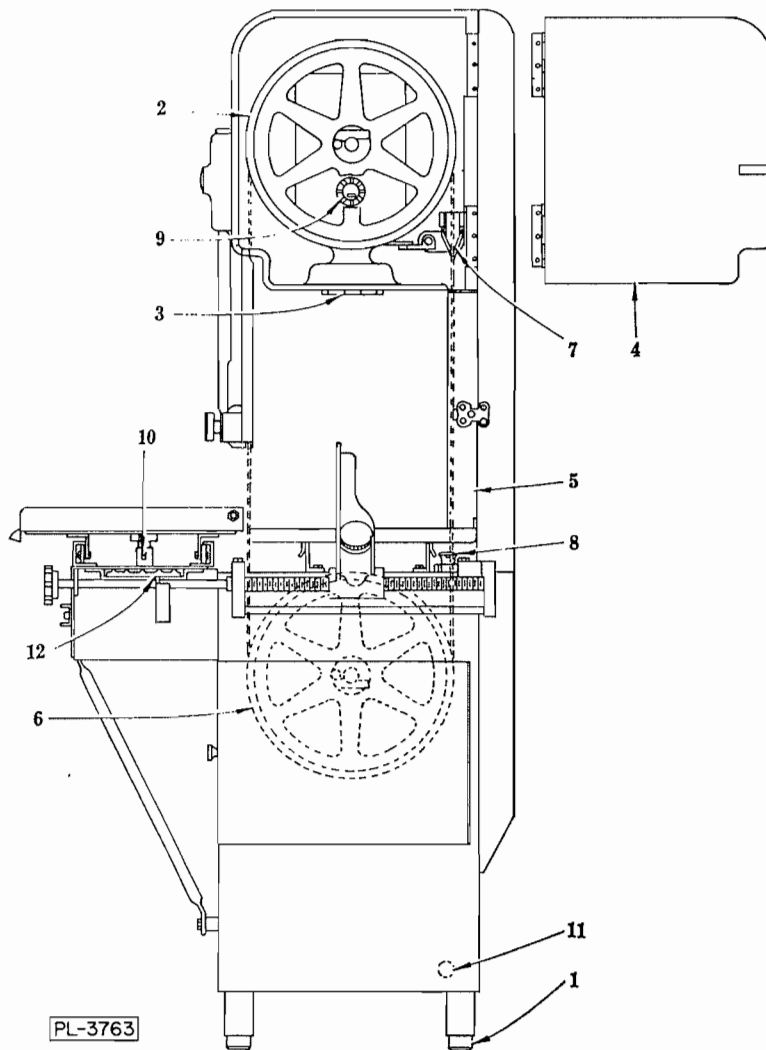
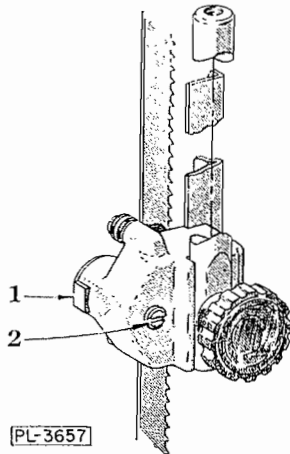
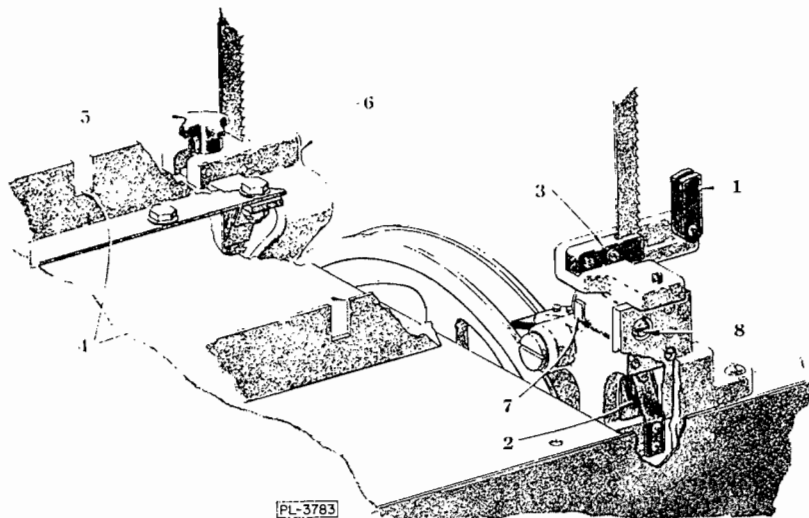
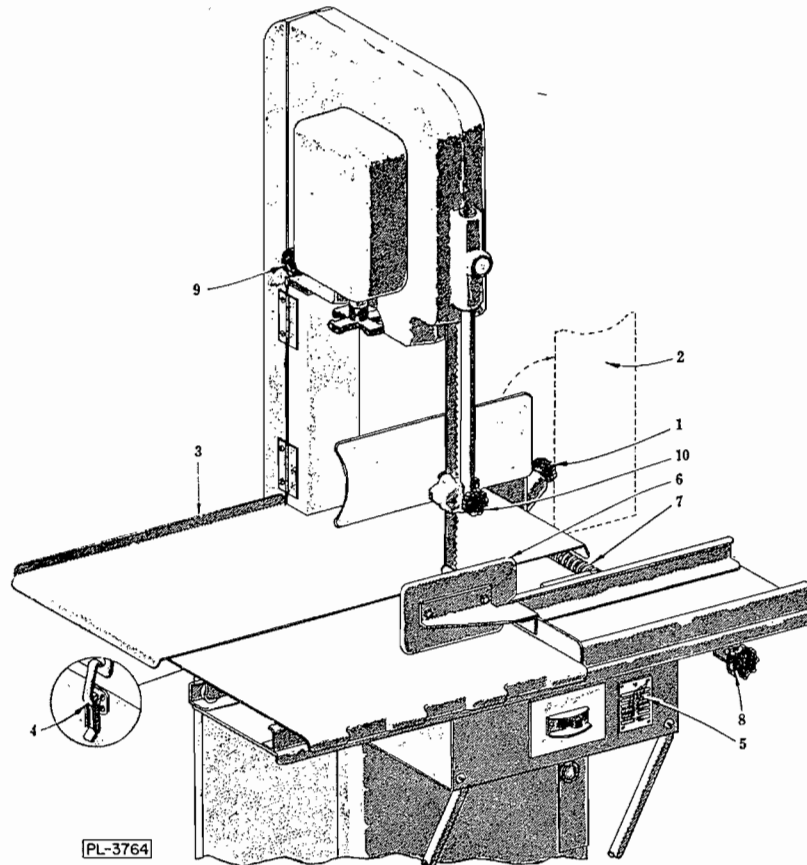

FIG. 1
FIG. 2
FIG. 3
FIG. 4
(1) Place the machine in the location where it is to be used. Re-assemble the feet (1, Fig. 1). Place a spirit level on top of the base unit and adjust the feet in the legs so that the base unit is level from side to side and front to back.
(2) Remove the motor access panel on the left side of the machine. Assemble the base cover plate assy. (with tracks) using the two taper pins as locators. Next assemble the front and rear table rests, using the taper pins as locators.
(3) Assemble the gage plate adjusting knob with shaft into position and lock in place with the rollpin furnished.
(4) Lower the upper blade pulley (2, Fig.1) by giving the tension adjustment hand wheel (3, Fig. 1) a few turns to the left. Open the head door (4, Fig. 1), then unlatch and open the column cover (5, Fig. 1). Lift the knurled hand knob (1, Fig. 4) and raise the gage plate (2, Fig.4) to its stopped position. Lift out the lower front wiper unit (Fig. 3) and lower the upper guide unit (Fig. 2) to its lowest position. Place the saw
blade over the upper blade pulley (2, Fig. 1) and lower blade pulley (6, Fig. 1). The teeth must point to the right and downward when viewed from the front as shown in Fig. 3. If they do not point downward, remove the blade, twist inside out and replace it on the saw. Make sure the blade is properly centered in the upper blade wiper (7, Fig. 1), the lower rear blade wiper (8, Fig. 1), and properly placed in the upper guide unit (Fig. 2). Turn the tension adjustment hand wheel (3, Fig. 1) to the right until the tension indicator (9, Fig. 1) reads "2". Give the upper blade pulley a few turns by hand so that the blade centers itself on the pulleys. Then turn the tension adjustment hand wheel slowly to the right until the indicator registers approximately "4". This is the best operating tension for the blade.
(5) Close the head door (4, Fig. 1) and column cover (5, Fig. 1).
(6) Assemble the lower front wiper unit (Fig. 3). Before sliding it into place, swing up the bakelite guard (1, Fig. 3) and see that the saw blade is between the two wipers (2, Fig. 3) and in the guide slot of steel block (3, Fig. 3). After sliding the unit into place, close down the bakelite guard (1, Fig. 3).
(7) With the gage plate (2, Fig. 4) in the raised position (clear of the table area), assemble the table (3, Fig. 4). The table is positioned by the locating slots (4, Fig. 3) in the table rest angles of the base. Make sure the reinforcing angles of the table are outside the table rest angles of the base. Lock the table in place by the spring catch (4, Fig. 4).
(8) The carriage may be assembled from either side. When rolling the carriage into place depress the carriage stop (10, Fig. 1). After this stop is released, the carriage will then be retained from rolling off.
Check the data on the name plate (5, Fig. 4) to make sure that it agrees with your electrical supply before connecting to the power line. Make your installation connection from the power line directly to the switch. To avoid having conduit at the front of the machine, it is recommended that flexible (or rigid) conduit be connected through the electrical inlet hole in the base (11, Fig. 1). The conduit connector on the end of the motor lead conduit should be assembled in the knock-out hole in the switch box. Next connect the motor leads to the switch.
(1) UPPER GUIDE ASSEMBLY (Fig. 2): Keep as low as the size of the work permits.
(2) DOORS: Keep all doors closed while the machine is running.
(3) BUTT-END PUSHER (6, Fig. 4): Use the pusher plate as described in paragraph VI and it will be unnecessary to hold your hand near the running saw blade.
(4) GAGE PLATE: The end of the gage plate (2, Fig. 4) is shaped to give maximum support and protection at this critical point, and at the same time, facilitate the taking off of slices.
(1) Keep a small amount of grease in the six ball bearing rollers on the carriage.
(2) Apply a few drops of oil occasionally to the gage plate screw (7, Fig. 4) and work the gage plate assembly back and forth a few times.
(3) Once a year, have a Hobart Service man look over the motor and main bearing carriers.
When cutting slices of uniform thickness, set the gage plate at the desired point with adjusting knob (8, Fig. 4) on the scale etched on the table. If the gage plate is not needed and interferes with the work, it may be raised out of the way. Lift the release knob (1, Fig. 4) and slide the gage plate on back to the end of gage plate screw (7, Fig. 4). The gage plate may be swung to a raised position at any setting along the gage plate screw without lifting the release knob.
To slice short ends, use the pusher plate (6, Fig. 4) to hold the meat against the gage plate. A slot in the pusher plate slips over and slides along the edge of the carriage. By holding the pusher plate with your right hand, your hand will then always be a safe distance from the saw blade and the stop will prevent the pusher plate from going too far. When not using the pusher plate, keep it stored beneath the carriage track, where provision has been made for holding it (12, Fig. 1).
(1) Roll carriage to extreme right or left. This exposes the carriage stop. Depress carriage stop and roll off stainless carriage.
(2) Rotate gage plate to raised position.
(3) Release spring catch and remove stainless steel table.
(4) Loosen the hand knob (9, Fig. 4), bump with hand to loosen stud and then remove the hand knob. Open head door and lift out upper blade wiper. Clean unit and lubricate with TASTELESS oil.
(5) Swing lower saw blade guard (1, Fig. 3) up and lift out lower wiper assembly. Clean unit thoroughly and lubricate with TASTELESS oil.
(6) Loosen hand knob (5, Fig. 3) and remove lower rear blade wiper (6, Fig. 3). Clean unit.
(7) Open base door and remove scrap pan.
(8) Release blade tension by turning tension adjustment hand wheel to the left. Open head door, unlatch and open the column cover. Remove saw blade.
(9) To remove the upper guide unit, remove the hand knob (10, Fig. 4) (blade tension already released) then lift off unit. Clean, lubricate with TASTELESS oil and replace.
(10) The upper and lower blade pulleys may be removed from their shafts by swinging the retaining latches clear of the shafts, then sliding the pulley from the shaft. Clean pulleys and lubricate bore before replacing.
(1) Move the carriage to the left to the stop, then depress the stop and move the carriage a few more inches just beyond the bakelite guard.